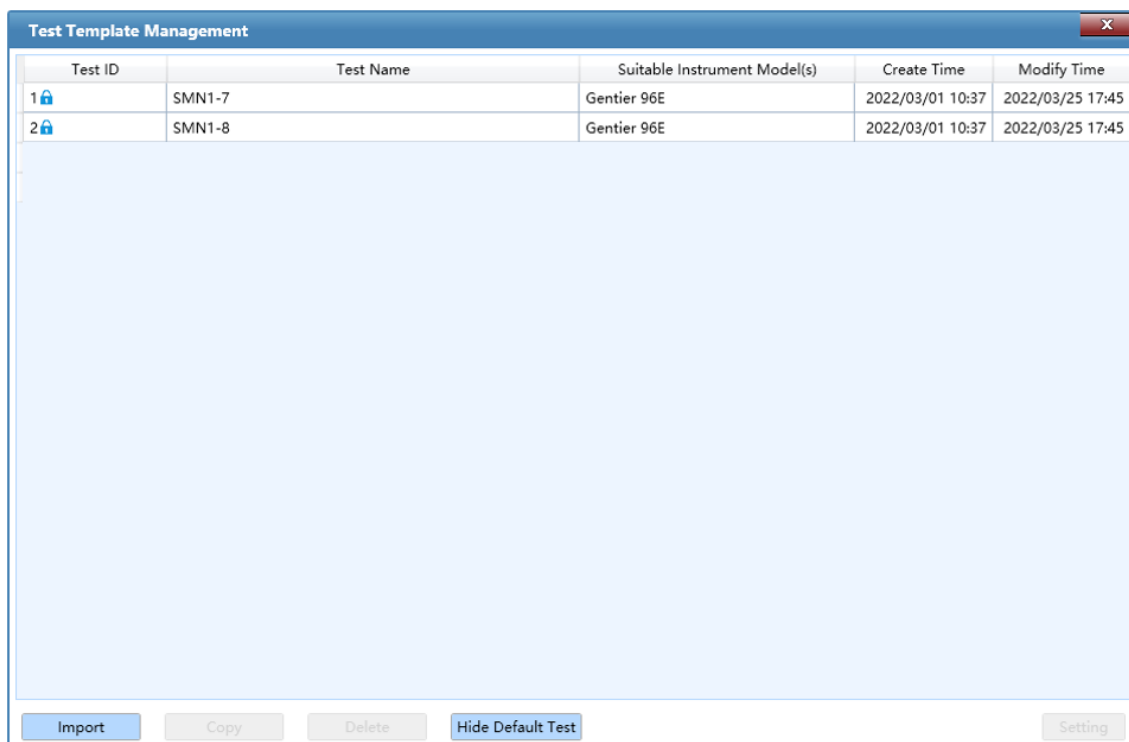

Figure D-3.6. Test Template Management
5. **Test Template Management:** click the **Test Template Management** in **Tool** submenu and the application software will automatically pop up the test template management interface, as shown in figure D-3.6.